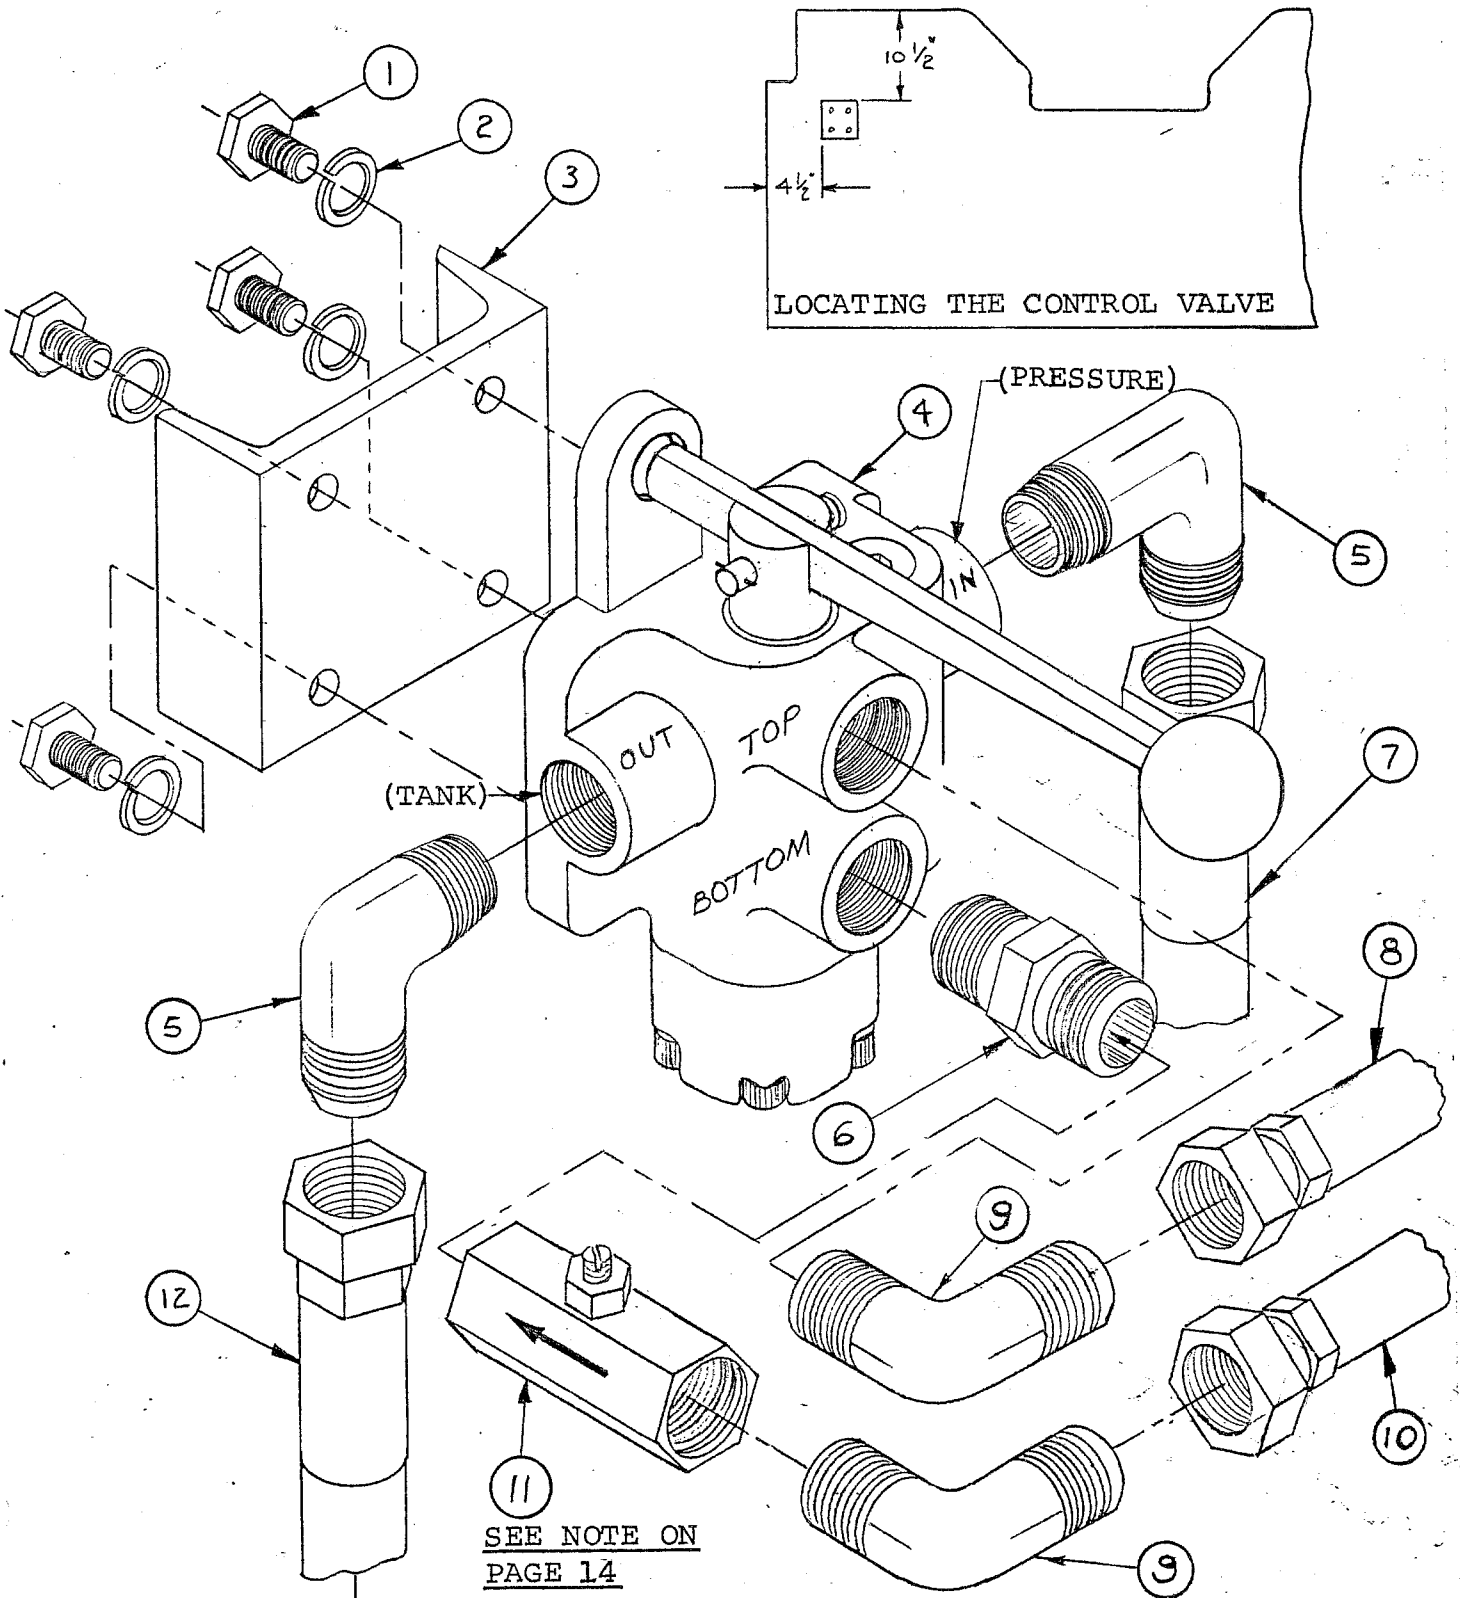

FIGURE 9
J. THE HYDRAULIC SYSTEM: (SEE FIGURES 9, 10 & 12)
1. The control valve. Four (4) 3/8"-16 hex head cap screws X 3/4" lg. with lockwashers are used to mount the valve to the base plate after it has been welded to the press frame. (SEE FIGURE 9)
- a. Disconnect the hose at the elbow from the low pressure fitting on the power unit and connect it to the 90° elbow on the "OUT" port of the control valve. (SEE FIGURES 9 & 12)